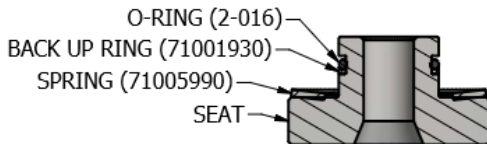

Figure 12 – Seat Assembly
- 12.6 Install the backup ring so that the concave contour faces the O-ring. Install the backup ring and O-ring per Figure 12.